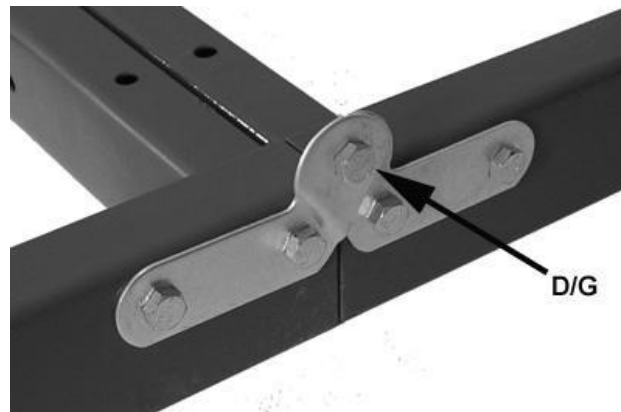

Figure 3-5
6. Connect right frame rail (1RR) to the three cross members (2) using steps 2-5 above.
7. Connect front and rear frame rotational brackets together with M10 x 20 bolts (D) and M10 nylon lock nuts (G). See figure 3-5.